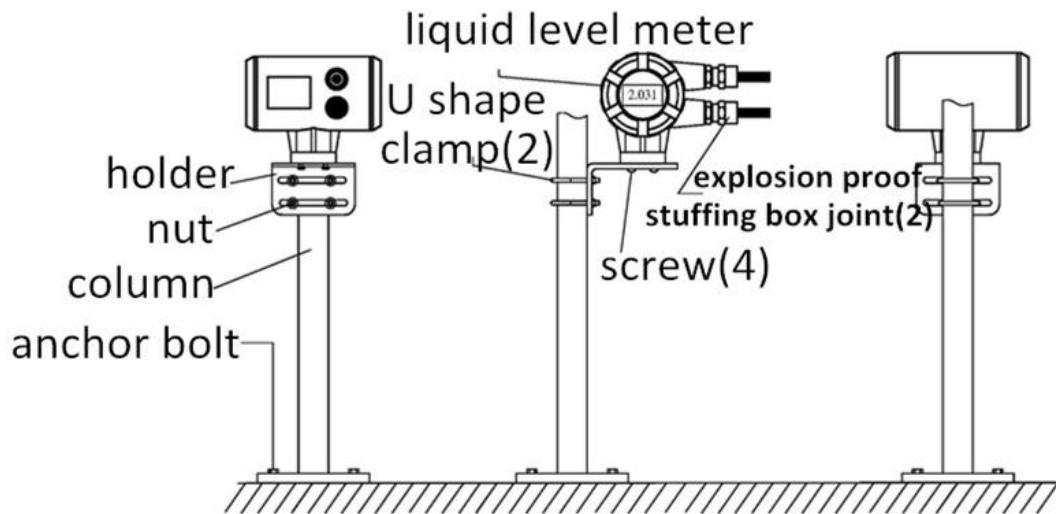

Fig.7-1 Meter Installation
- ① According to meter installation requirements and real site operation conditions, select a proper location in the tank farm. Users should prepare a cylindrical column with a 60mm diameter (standard U shape clamp matches with tube with 60 diameter) and fix the device with an anchor bolt in the desired area on the ground.
- ② Fix the standard meter holder and two U-shape clamps on the cylindrical column at a proper height (see Fig. 7-1).
- ③ After installing ultrasonic probe, connect the power wire, probe cable and signal output line with their corresponding terminals on the back side of the meter. Fill and seal the explosion proof stuffing box joint in the electrical interface of the meter according to installation requirements of the provided explosion proof mortar.
- ④ Tightly fix the back cover of the meter to complete liquid level meter installation.